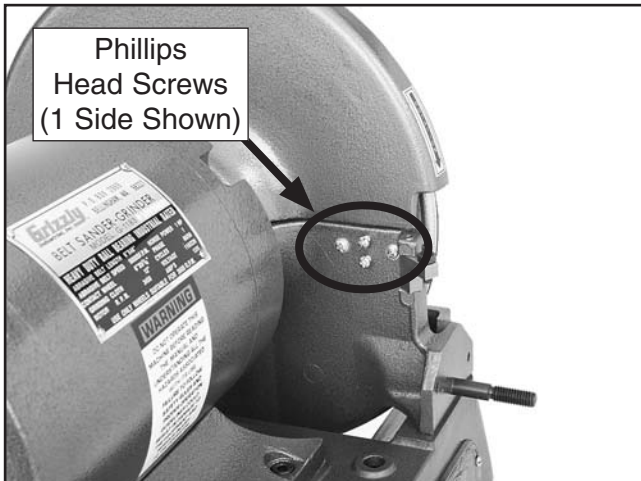

Figure 5. Phillips head screws that secure and adjust the guard sections.
4. Remove the eight Phillips head screws behind the guard that secure and adjust the upper disc guard to the lower guard, then lift the upper guard up and off (see **Figures 5–6**).
15. Thread the inner two screws from **Step 10** in or out to adjust the upper guard so that it is even with the lower guard (see **Figure 5** on the previous page).